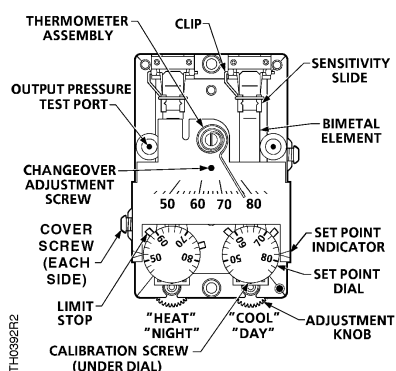

Figure 3. TH192 HC Thermostat Details.
2. Place a screwdriver in the center of the thermometer assembly (*Figure 3*). Carefully rotate thermometer assembly until pointer tip indicates the correct room temperature.
3. Place an Allen wrench in the opening of the thermometer assembly (*Figure 3*) to adjust the changeover adjustment screw as follows:
To change the limit stop settings, use a needle nose pliers to pull the limit stop (*Figure 3*) between the set point cam gear teeth. Do not pull limit stop any more than necessary to clear the gear teeth. Rotate the limit stop to its new position. Changing the limit stop position one gear tooth changes the limit stop setting by 1-1/3°F (0.7°C).
The factory thermostat sensitivity setting is approximately 2.5 psi/°F (31 kPa/°C). To change the sensitivity, use a flat blade screwdriver to carefully move the sensitivity slide (*Figure 3*) to the desired position as follows:
- If the control pressure does not read 7 to 8 psi (48 to 55 kPa), turn the calibration screw (*Figure 3*) using the calibration tool or a 1/8" (3.2 mm) wrench until the pressure is 7 to 8 psi (48 to 55 kPa). The sensing element is now in calibration and the set point can be changed to the desired room temperature.
- If the control pressure does not read 7 to 8 psi (48 to 55 kPa), turn the calibration screw (*Figure 3*) using the calibration tool or a 1/8" (3.2 mm) wrench until the pressure is 7 to 8 psi (48 to 55 kPa). The sensing element is now in calibration and the set point can be changed to the desired room